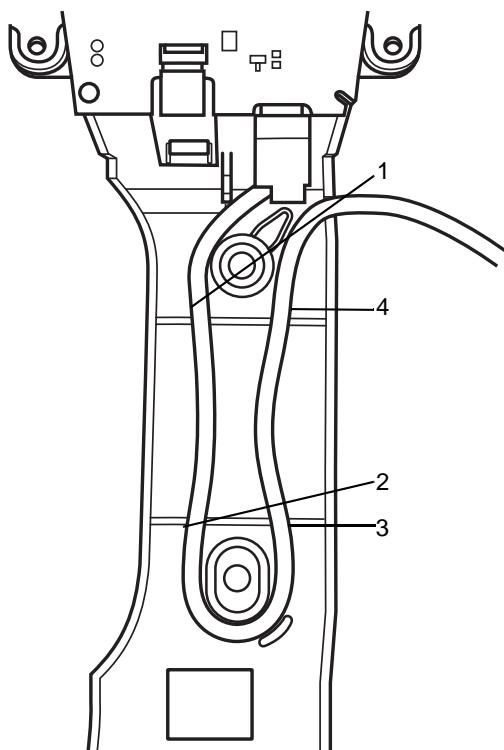

Figure 7-13 Routing the USB Cable
11. Follow the numbers next to each indent on the bracket to route the USB cable as shown in Figure 7-13.